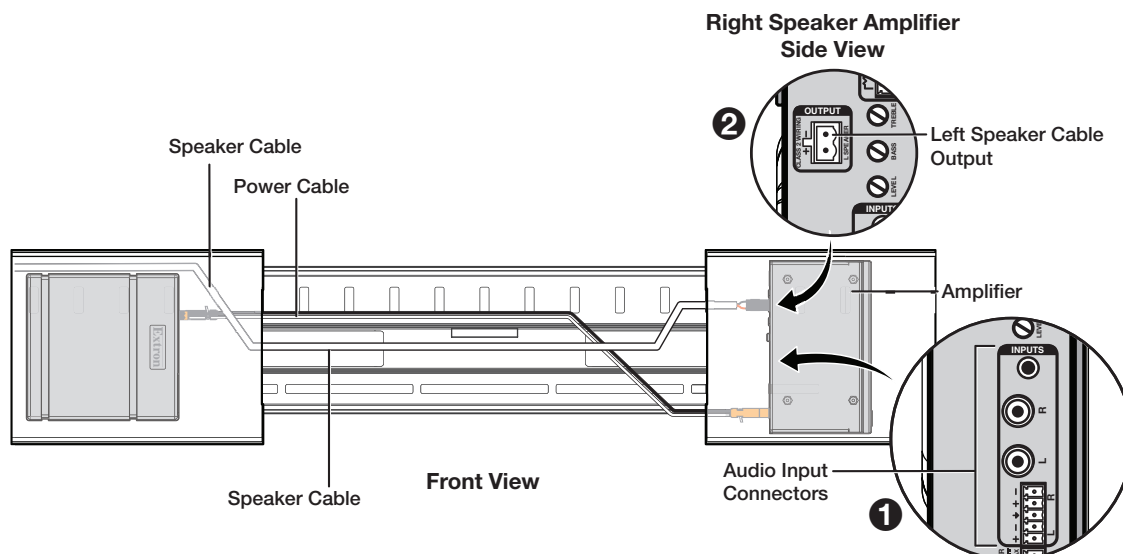

Figure 14. Left Speaker Cable Routing
- Route the supplied speaker cable from the left speaker module to the left speaker output of the amplifier (figure 14, ②).